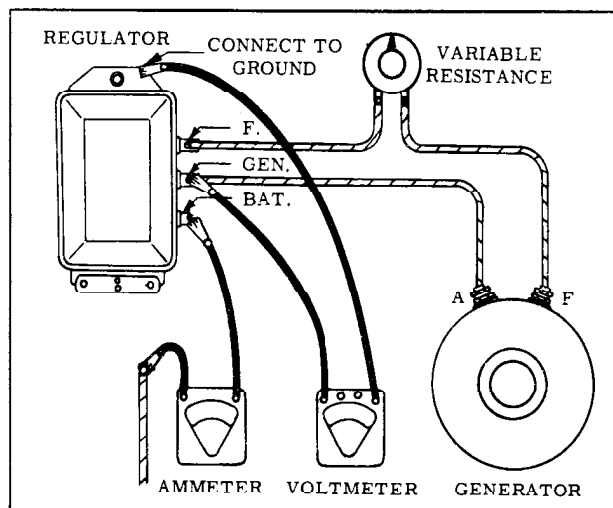

Fig. 13-15 Cutout Relay Closing Voltage
1. Connect a voltmeter between the regulator "GEN" terminal and ground. (Fig. 13-15)
METHOD B - Connect Variable Resistor J-7099 into the field circuit as in Fig. 13-15. Move the voltmeter lead from "BAT" to "GEN" terminal of regulator. With the generator operating at 1600 to 1900 r.p.m., slowly increase (turn in) the resistance of the variable resistor until generator voltage is reduced below 4 volts. Move voltmeter lead back to "BAT" terminal of regulator. Decrease (turn out) all of the resistance of the variable resistor. Note current setting. Setting should be midway between the high and low as indicated by the regulator ambient temperature correction chart. (Fig. 13-13)